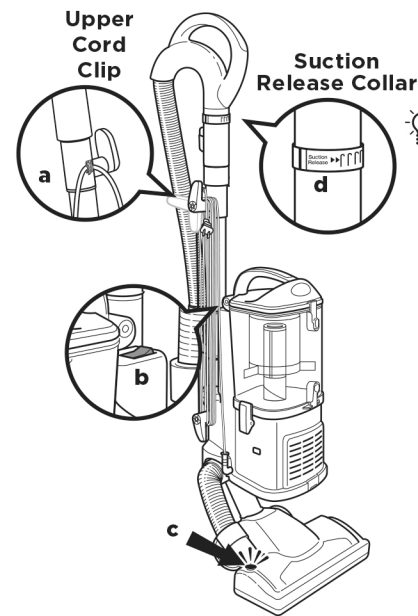

Fig. 11
- 2 Secure the power cord by wrapping it around the cord clips **(a)**. **(Fig. 11)**
- 3 Press the selector switch **(b)** to Setting I to vacuum bare floors (straight suction only) or to Setting II to engage the brushroll (for vacuuming carpets and rugs). **(Fig. 11)**
**Brushroll Indicator Light:** The brushroll indicator light **(c)** will illuminate green when the brushroll is on, or red if there is a blockage or jam. **(Fig. 11)** This feature is designed to protect the brushroll. See Checking for Blockages.
- 5 Increase or decrease suction power by adjusting the suction release collar **(d)** on the handle. **(Fig. 11)** If the vacuum seems difficult to push or pull or if it is lifting up area rugs, reduce suction by rotating the collar counterclockwise. To increase suction and to vacuum floors, rotate the collar clockwise.